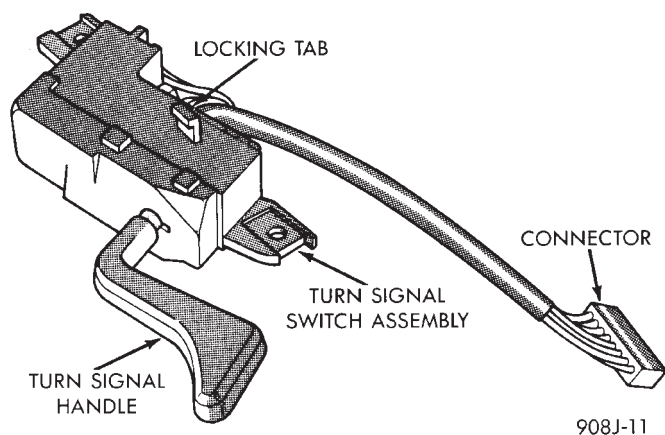

Fig. 9 Remote Turn Signal Switch—AG and AJ Bodies
- (1) Disconnect battery ground cable..
- (2) Remove turn signal lever by pulling it straight out of the switch (Fig. 9).
- (3) Remove two screws from the bottom of the switch pod that hold turn signal switch.
- (4) Disconnect turn signal pigtail wire from head-lamp switch at the 8-way connector.